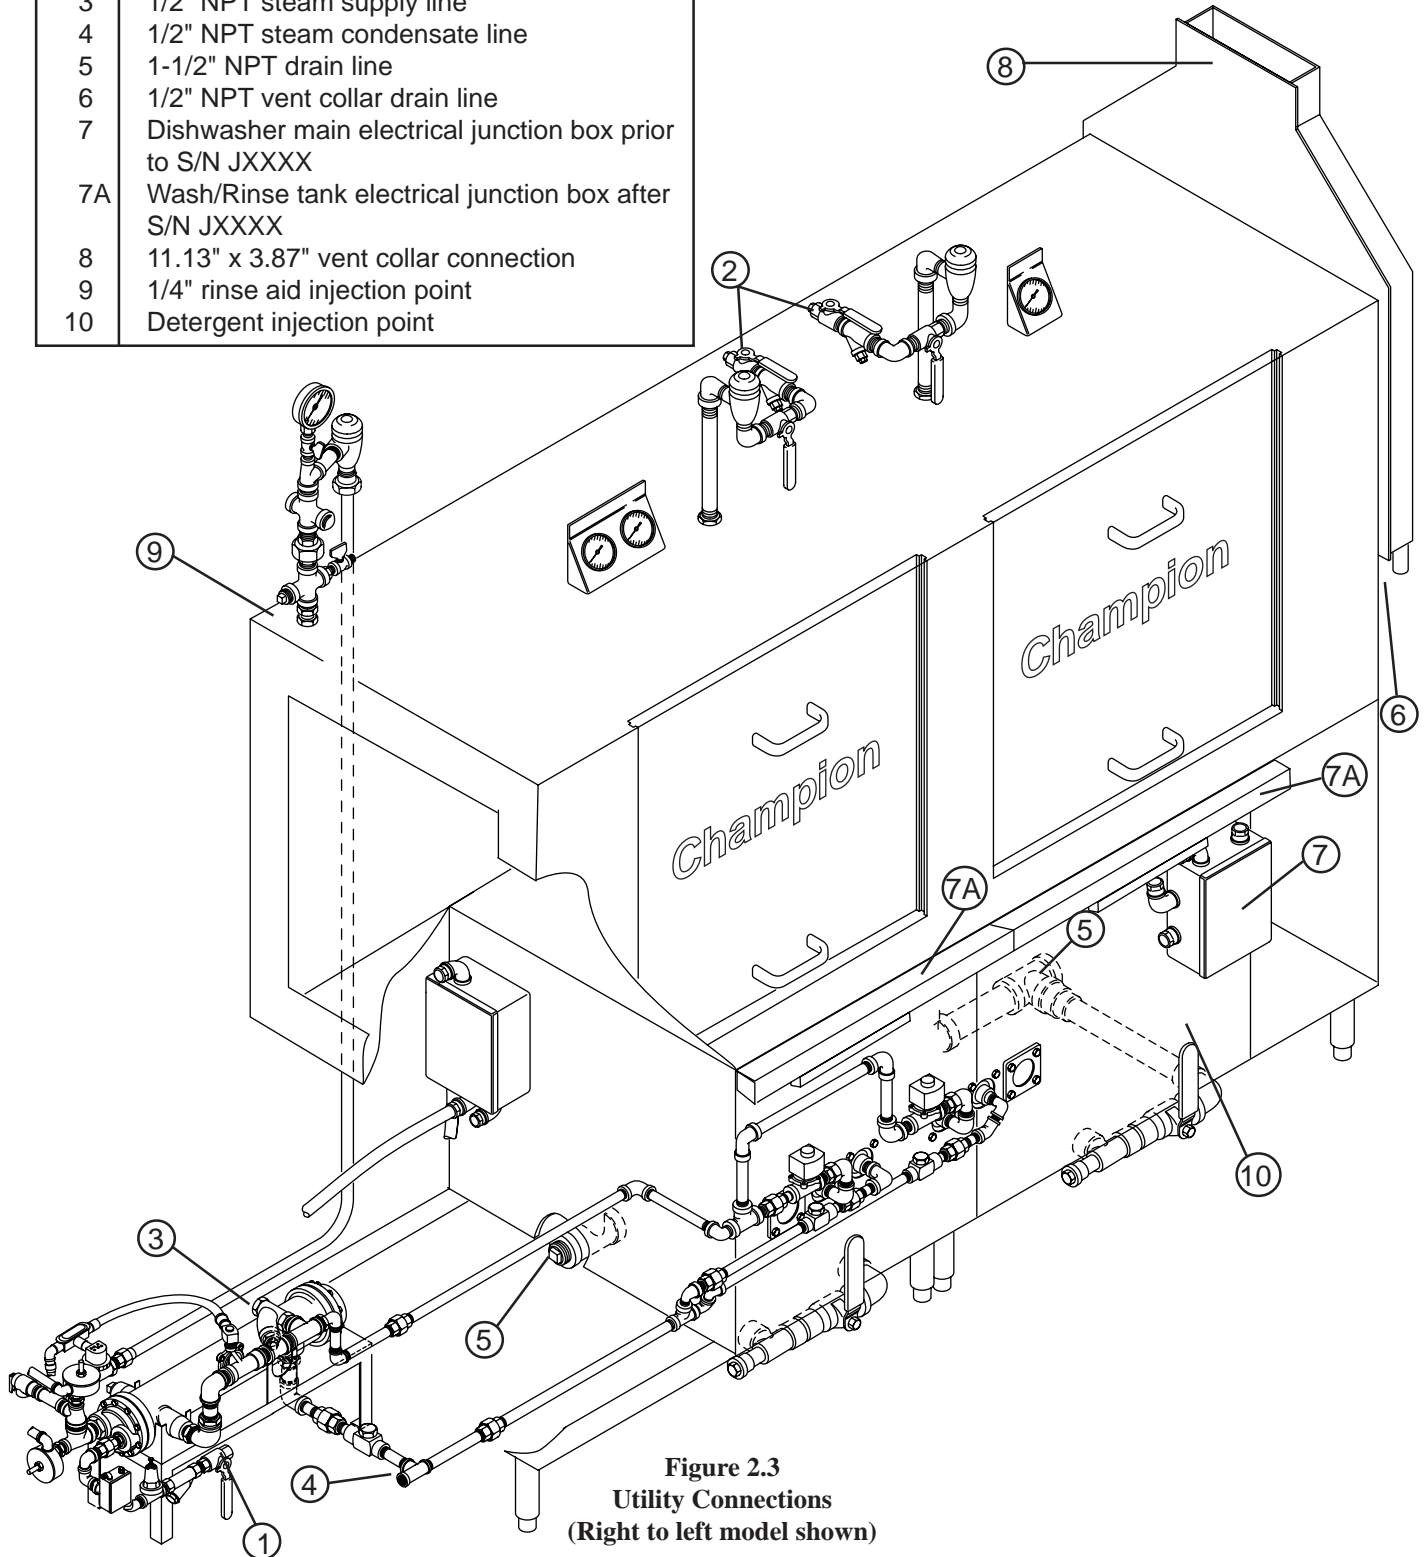
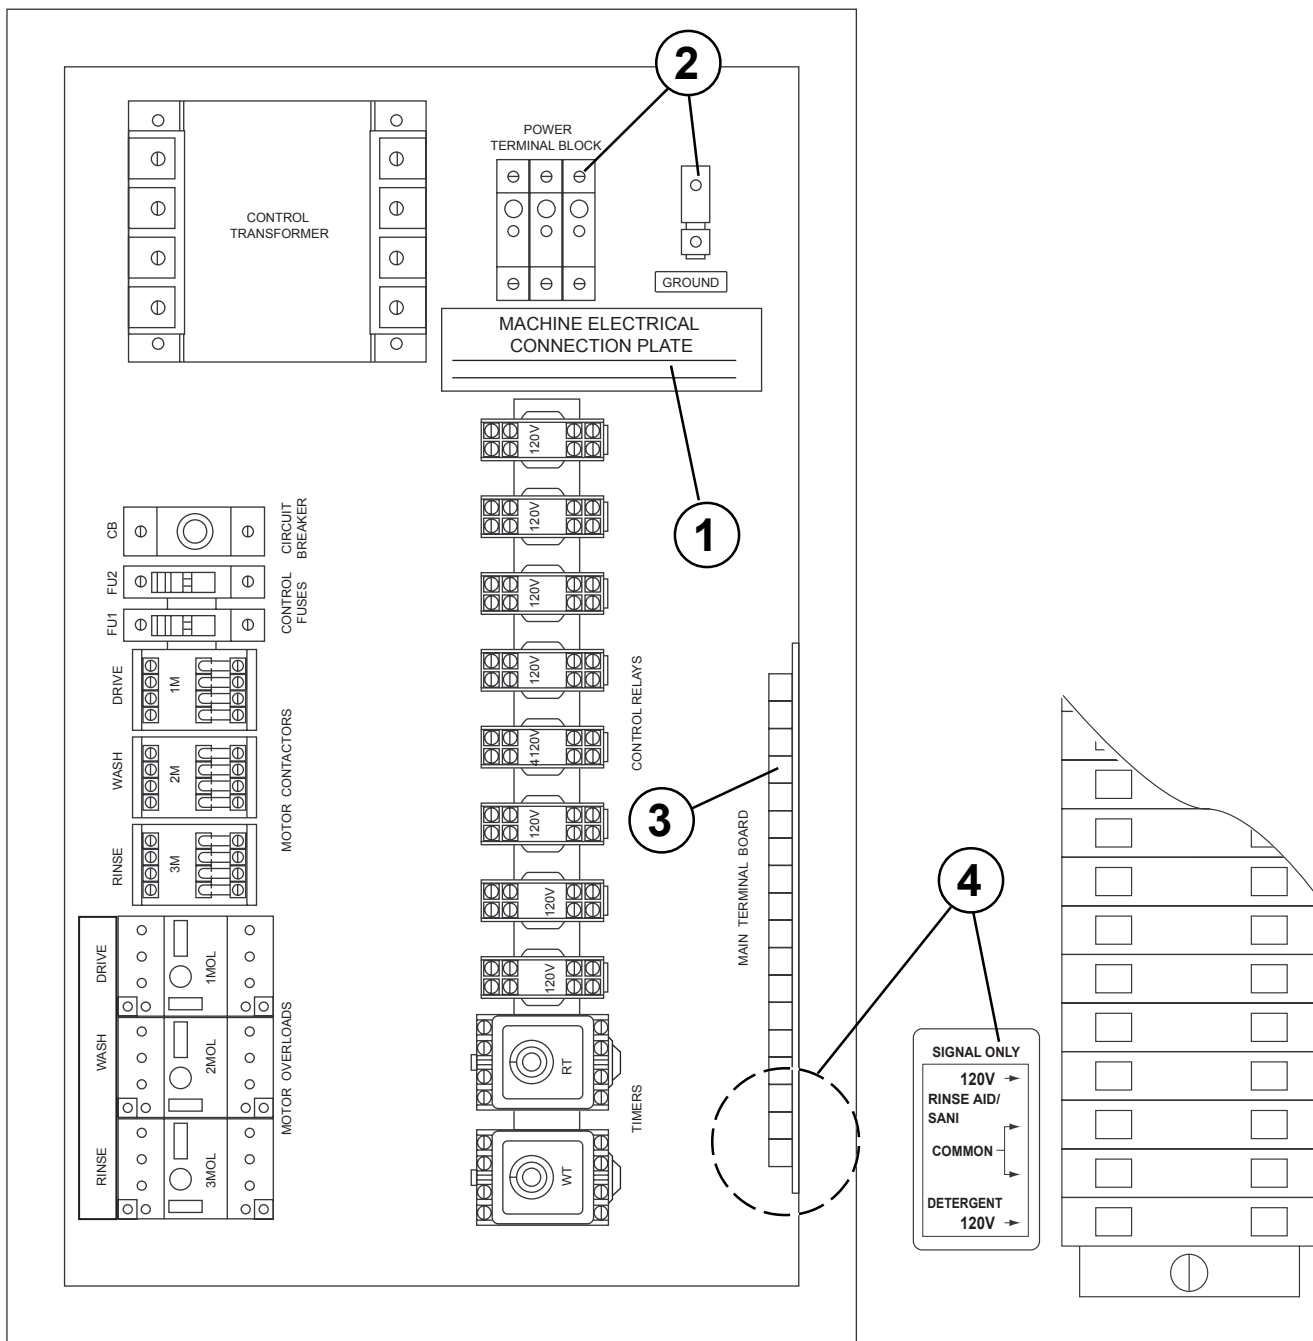

Figure 2.3
Figure 2.6
Refer to Figure 2.3 on the next page.
1. Connect a 3/4" NPT hot water supply line (110°F minimum) to the water inlet valve located at the booster. (See No. 1, Fig. 2.3.)
2. Connect a 1/2" NPT hot water line (140°F minimum) to the water inlet valve located at the top of the dishwasher. (See No. 2, Fig. 2.3.)
1. Connect a 1-1/2" NPT steam supply line to the line strainer located at the booster. (See No. 3, Fig 2.3)
2. Connect a 1" NPT steam condensate line to the tee fitting located at the booster. Condensate must be gravity return to the boiler or to a pumping trap. (See No. 4, Fig. 2.3)
Refer to Figure 2.3 on the preceding page.
1. Connect a 1-1/2" NPT drain line to the dishwasher. The machine drain is a level line so connection can be made on either end by relocating the drain plug. The drain line is located underneath the dishwasher. (See No. 5, Fig. 2.3, page 11.)
2. Connect 1/2" NPT drain lines to the load and unload vent collars, (2) connections per collar. (See No. 6, Fig. 2.3, page 11.)
1. Connect an exhaust duct to the load and unload vent collar located at each end of the dishwasher. Inside dimensions of the vent collar connection are 11.13" x 3.87". (See No. 8, Fig. 2.3, page 11).
Refer to Figure 2.3, page 11 and Figure 2.6, page 17.
1. A qualified electrician must compare the electrical power supply with the machine electrical specifications stamped on the MACHINE ELECTRICAL CONNECTION PLATE located inside the remote control cabinet (see No. 1, Fig 2.6, page 17) before connecting to the incoming service through a fused disconnect switch.
2. Refer to Figure 2.3, No. 7 and 7A (depending on serial number), on page 11. No. 7 indicates the location of the wash tank junction box for the right to left machine. The box is located on the opposite end of the dishwasher for a left to right machine. No. 7A indicates the location of the wash and rinse tank junction box.
Refer to Figure 2.6 on page 17.
4. Install the power supply wires from the local distribution panel to the remote control cabinet at the incoming power terminal block. (See No. 2, Fig. 2.6.)
5. For serial numbers prior to J1871, install the power and control wiring between the remote control cabinet and the main electrical junction box located on the front of the dishwasher. Wire numbers are marked on the main terminal board in the remote control cabinet. (See No. 3, Fig. 2.6 page 17.). Terminal board wire numbers correspond to wires marked in the dishwasher main junction box. Match wire numbers and connect.
Refer to Figure 2.3, page 11, and Figure 2.6, page 17.
1. Chemical dispensing signal connection points are provided on the main terminal board in the remote control cabinet. (See No. 4, Fig. 2.6, page 17.) Beginning with serial number J1872, these same connection points are also located in the wash tank junction box (No. 7 A, Fig 2.6 page 11). Either connection location can be used. A yellow label indicates the connection points.
5. The rinse aid injection point is located in the upper final rinse piping of the dishwasher. (See No. 9, Fig. 2.3, page 11.)
6. The chemical equipment installer must cut a hole in the wash tank for a detergent sensor and a detergent injection point. (See No. 10, Fig. 2.3, page 11.)